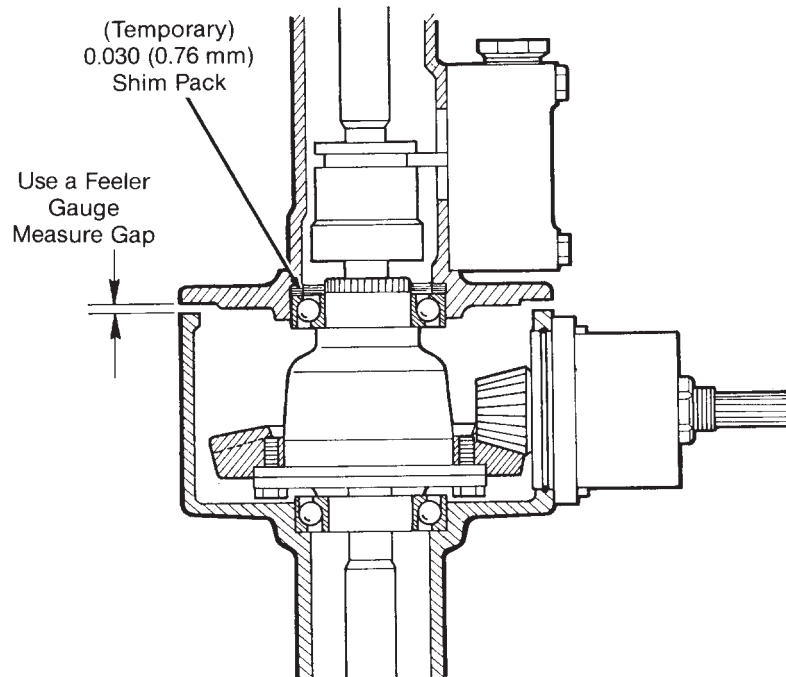

Figure 4E-13. Pinion and Ring Gear Backlash Adjustment (Optional Method)
15. Continue to assemble axle as in Figure 4E-9.
(See Figure 4E-13)